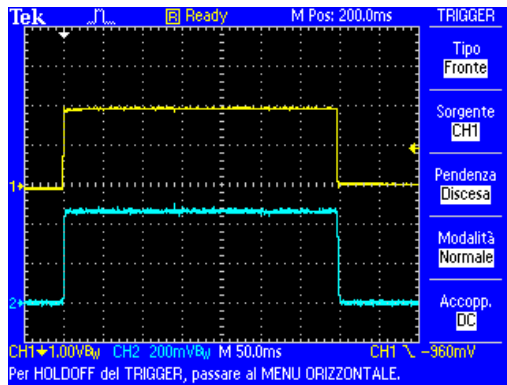

Fig. 6a
- Check that the resulting values are correct respect values in the table below and then check the wave-length by comparing it to the typical wave-lengths shown in fig. 6a (60 kV) and 6b (100 kV).